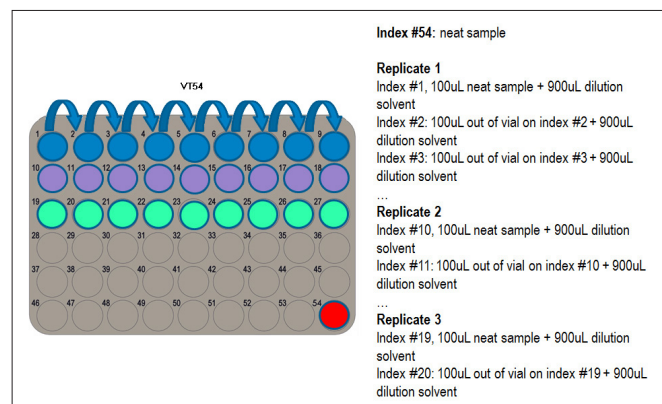

Figure 1. Sample Tray Layout.
Calibration Dilution uses a 100 µL and a 1000 µL syringe to prepare up to three replicate sets of the specified number of dilution steps. The final volume of each dilution level is 1 mL. The vial positions are fixed in the tray, as shown in Table 1 and Figure 1.
7. Put new, capped sample vials in tray positions being used (Figure 1).